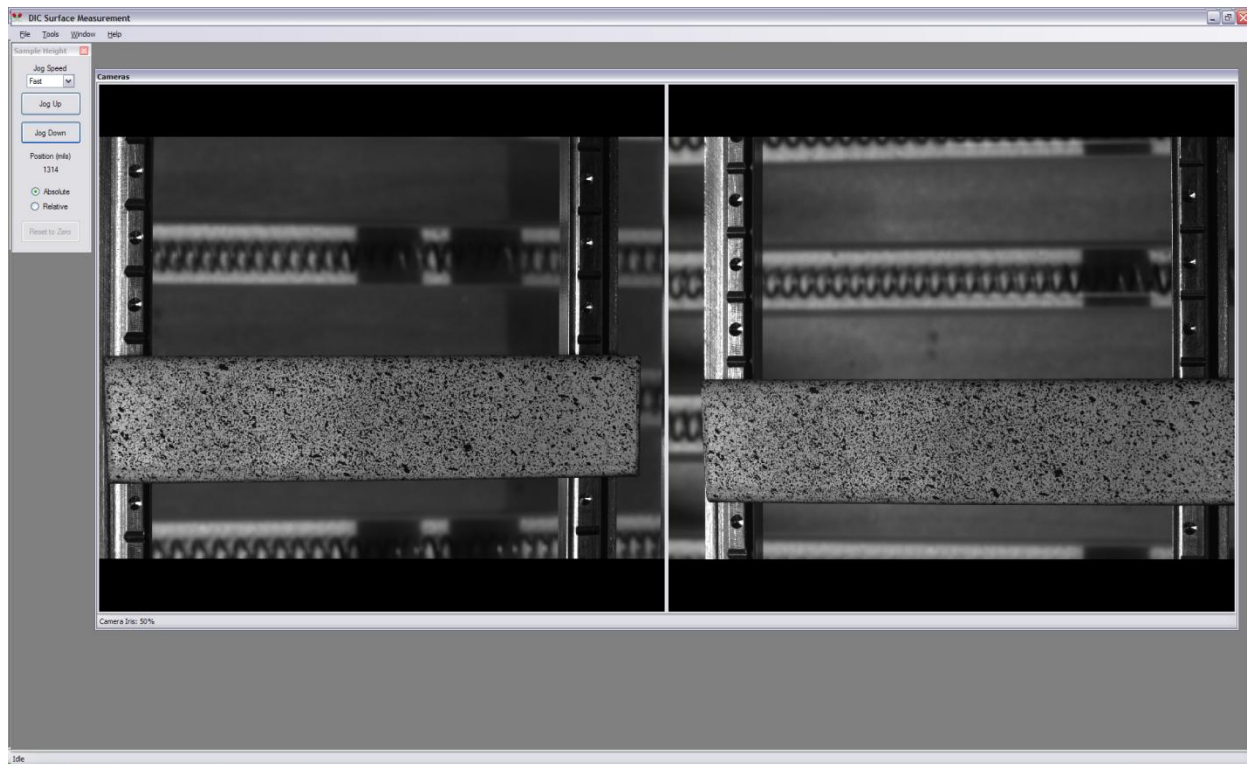

Figure 4.2 DIC Surface Measurement
5. The main screen will display and it looks very similar to the normal Surface Measurement interface, except that it has two camera views instead of one (**Figure 4.2**).